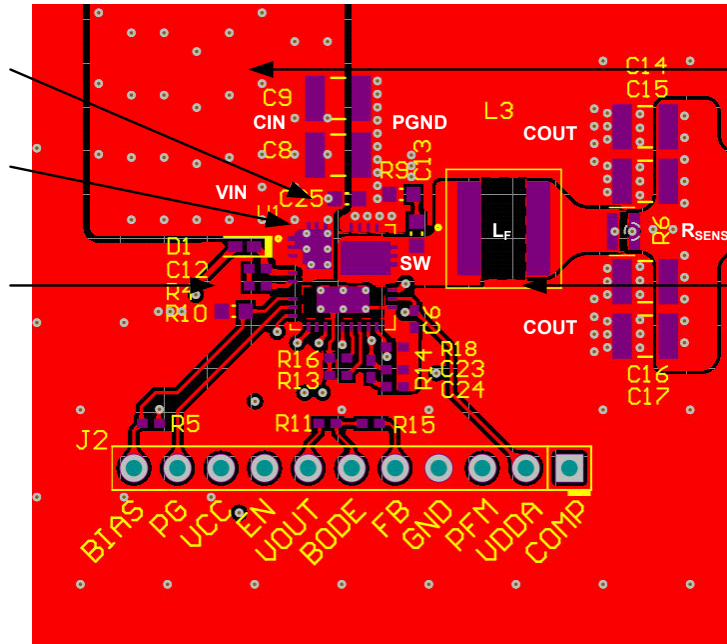

Figure 8-29. PCB Top Layer – High Density, Single-sided Design
The following list summarizes the essential guidelines for PCB layout and component placement to optimize DC/DC converter performance, including thermals and EMI signature. Figure 8-29 shows a recommended layout of the LM70880-Q1 with optimized placement and routing of the power-stage and small-signal components.
- Use low-ESR ceramic capacitors with X7R or X7S dielectric from VIN to PGND. Place an 0402 capacitor close to VIN for high-frequency bypass as shown in Figure 8-29. Use additional 1206 or 1210 capacitors for bulk capacitance.